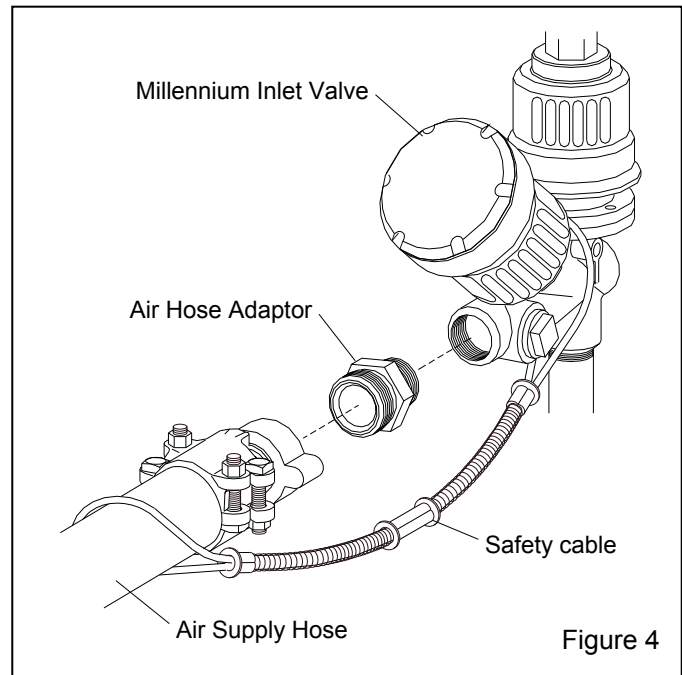

Figure 4
2.3.1 Apply thread sealant to the male pipe threads of an air fitting that is compatible with the air supply hose fitting, as noted in Section 2.3.2, and install it onto the 1-1/2 NPT air filter located at the blast machine inlet, or the Millennium inlet valve, as shown in Figure 4. **Note that the style of connection shown in Figure 4 is for reference only.**